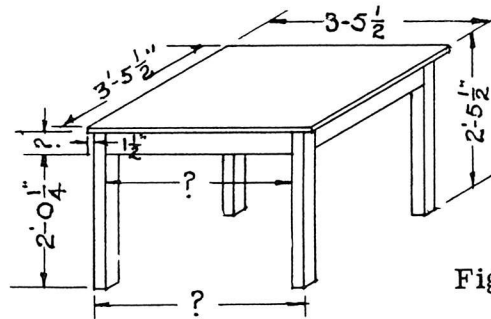

Fig. 1
1. Figure 1, shows an oblique view of a table. If the table top is $\frac{3}{4}$ " thick, how long are the table legs?
2. If the table in Figure 1, has legs which are $2 \frac{1}{4}$ " square, what is the distance between the legs?
3. If the table top, Figure 1, is $\frac{3}{4}$ " thick, what is the width of the rail?
4. In Figure 1, what is the measurement from the outside face of one table leg to the outside face of the other table leg?